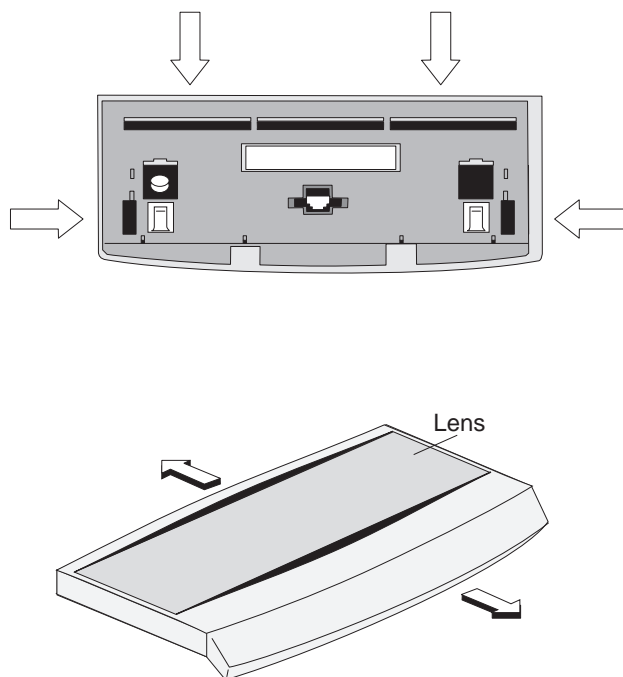

Figure 3-52. Removing the Frame and Lens
- 2 Using a small flat-blade screwdriver and starting at the top edge of the display, pry at the points indicated in Figure 3-52 to release the lens frame.